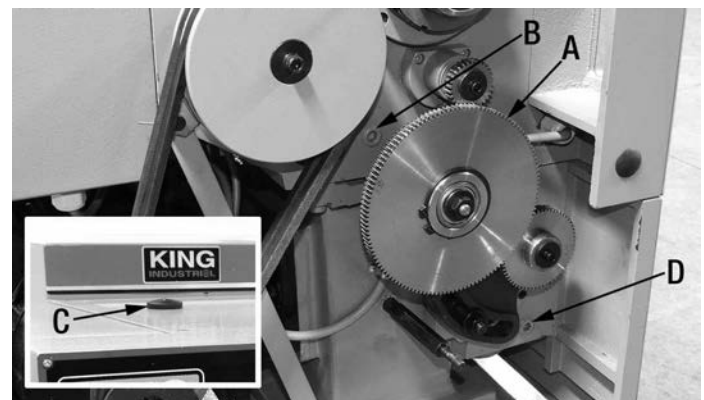
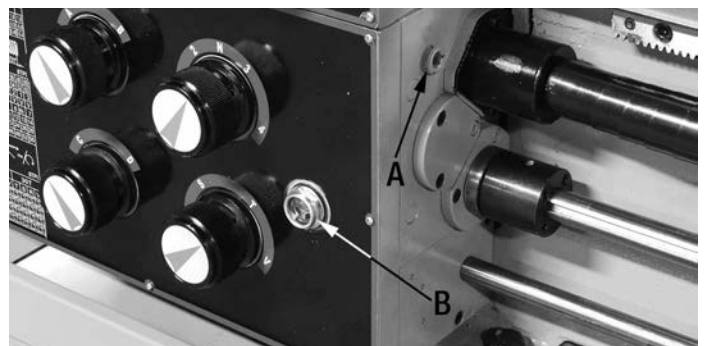

FIGURE 20
FIGURE 21
Lubricate the change gears (A) Fig.20 with thick bearing grease once a month.
After running for the first 3 months, change headstock oil. Change oil once a year after first initial oil change. To drain oil from the headstock, remove left end cover, remove oil drain bolt (B) Fig.20 and drain oil. Reinstall drain bolt. Open the top oil plug (C) and fill with 3 Litres of EP68 hydraulic oil.
To drain oil from the gearbox, remove left end cover, remove oil drain bolt (D) Fig.20 and drain oil. Reinstall drain bolt. Remove oil fill bolt (A) Fig.21 and fill with 1 Litre of SAE-30 motor oil until it reaches the 3/4 mark on the oil level indicator (B).